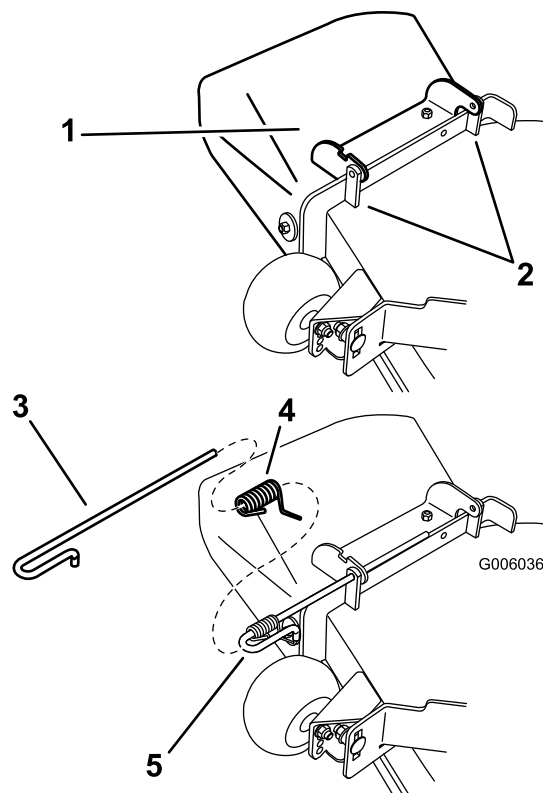

Figure 71
1. Disengage the spring from the notch in the deflector bracket and slide the rod out of the welded deck brackets, spring, and discharge deflector (Figure 71). Remove the damaged or worn discharge deflector.
2. Position the new discharge deflector assembly with the bracket ends between the welded brackets on the deck as shown in Figure 71.